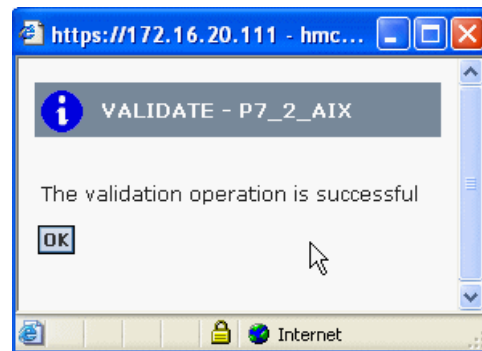

Figure 17-37 Successful validation
3. After completion, the VALIDATE window provides information regarding the status of the operation, as shown in Figure 17-37. You can now select **OK**.